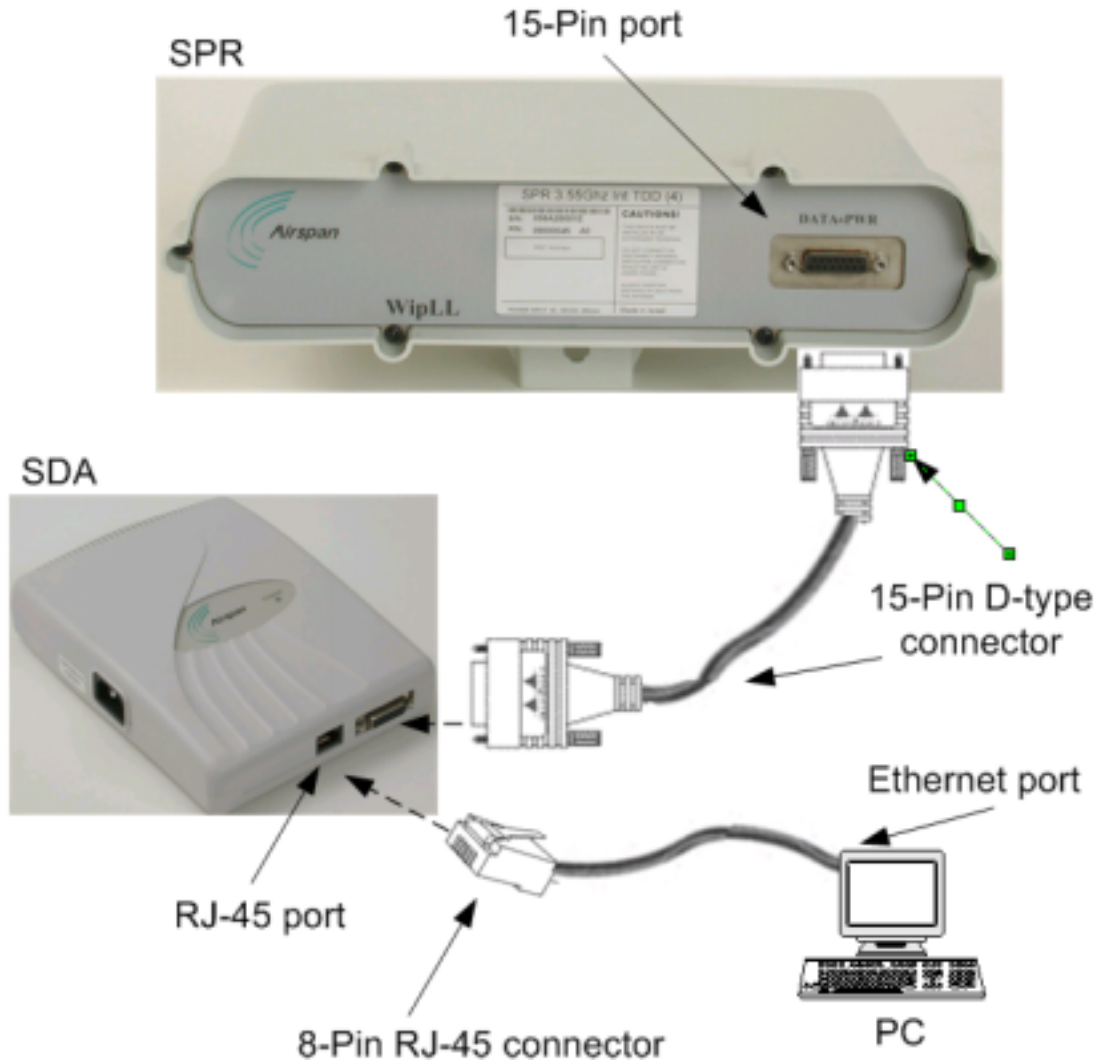

Figure 9-9: SDA-to-PC Cable Connections
1. Connect the **8-pin RJ-45 male** connector, at the one end of the Ethernet cable, to the SDA's RJ-45 Ethernet port (see Figure 9-9).
2. Connect the **8-pin RJ-45 male** connector, at the other end of the Ethernet cable, to the subscriber's PC (or device). (See Figure 9-9.)